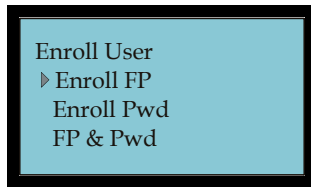

Figure 2-62 Enroll User Menu
3. Press **OK** to display the Enroll User menu and select Enroll FP (see **Figure 2-62**).